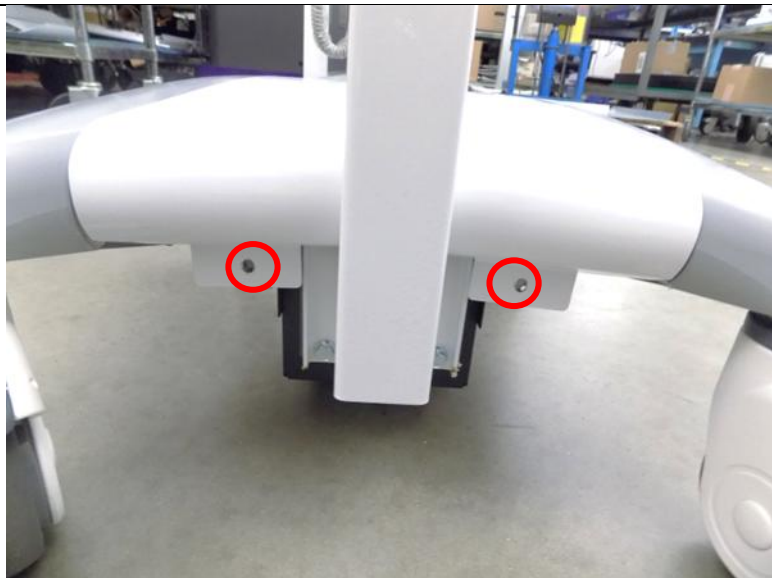

Figure 12: Re-attaching the Base Shroud
12. Reinstall the lower base shroud. Secure the shroud in place using the 2 Phillips screws removed in Step 10 as shown in Figure 12.